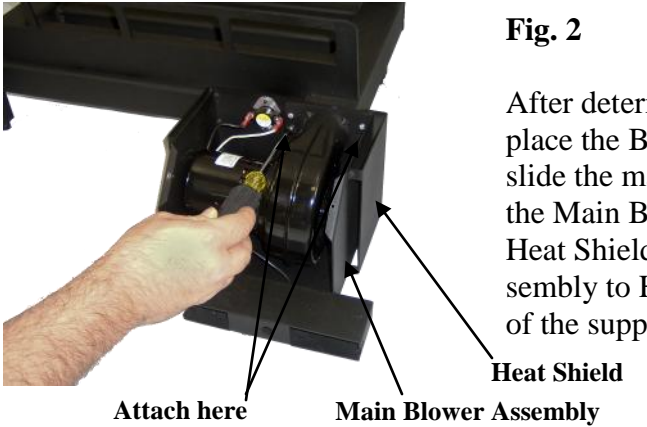

Fig. 2
- **Step 4.** Align holes and bolt the Blower Assembly to the Heat Grate unit using supplied Philips head screws. **(Fig. 2)**